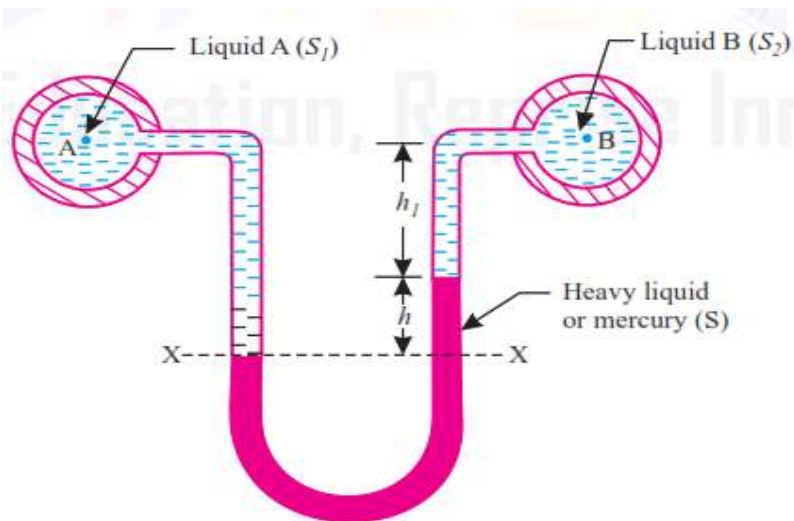

Fig. 2.21. (a) Two pipes at same level.
1. U-tube differential manometer: A U-tube differential manometer is shown in Fig. 2.21 (a) shows a differential manometer whose two ends are connected with two different points A and B at the same level and containing same liquid. Let,